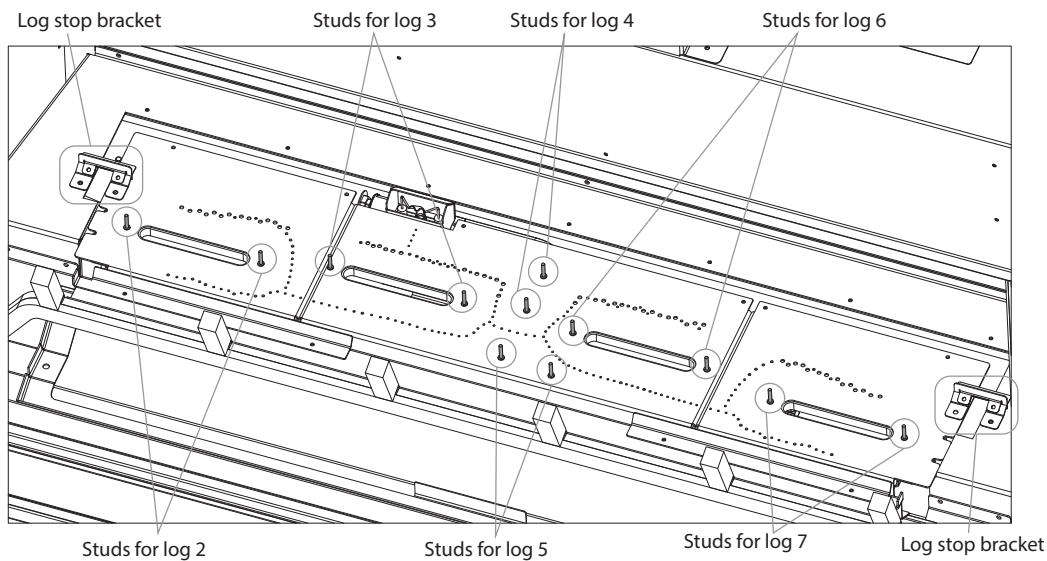
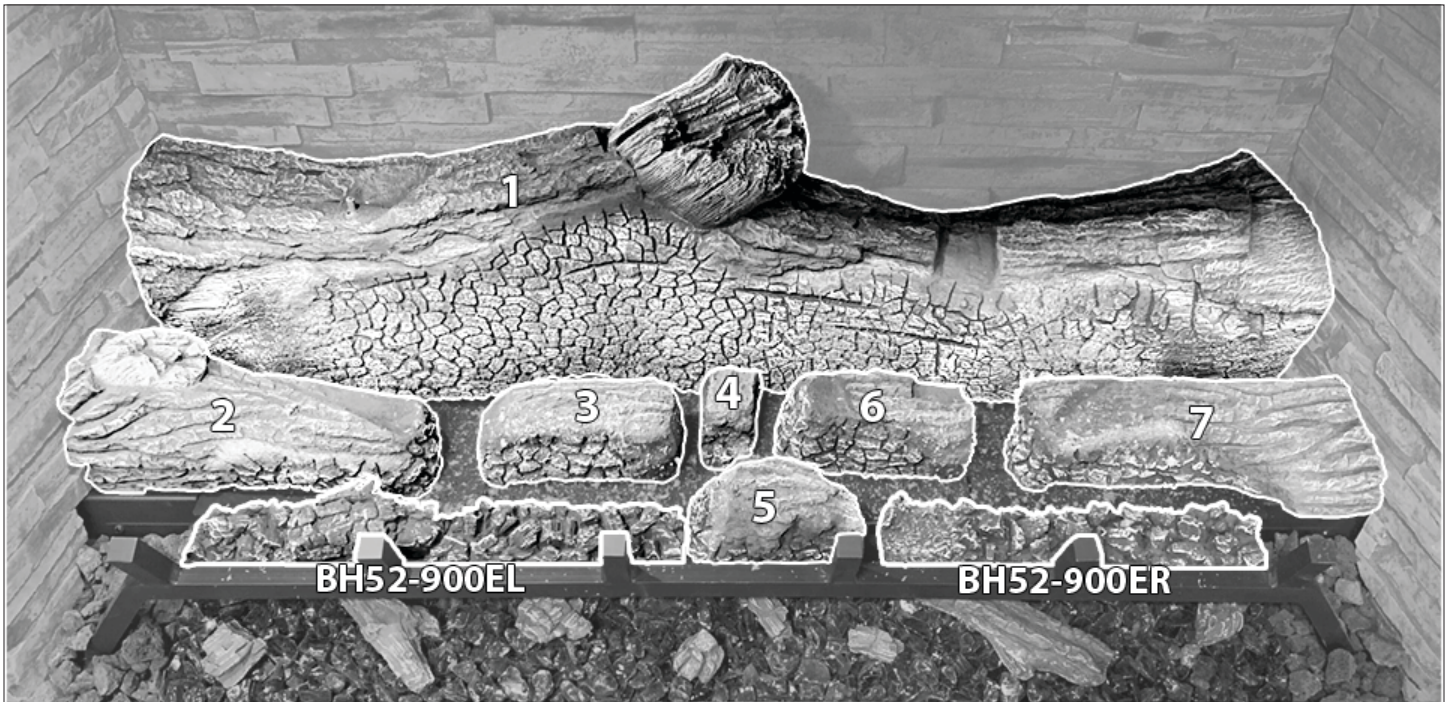

Figure 8.6, Burner Stud Locations and Log Stop Brackets
Figure 8.7, Base Logs
in Figure 8.7. Slide the log forward until it rests against the log stop bracket flanges (Figure 8.6).
3. Align the holes in the bottom of logs 2 through 7 with the corresponding studs located on the burners. See Figure 8.6 for burner stud locations
4. Set logs 2 through 7 into position as shown in Figure 8.7.
5. Place the left and right ember panels on their respective sides of log 5, as shown in Figure 8.7. The right ember panel has a flat notch on the side closest to log 5.